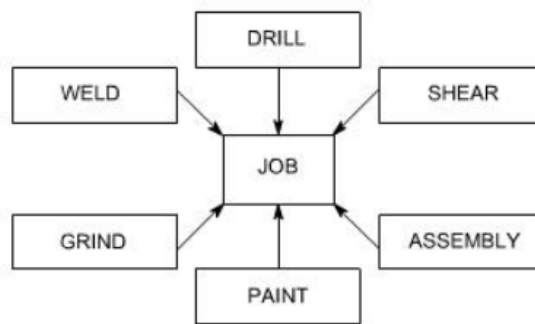

Figure 3: A Pictorial Representation of Fixed Location Type of Layout
• In this type of layout, the product is kept at a fixed position and all other material; components, tools, machines, workers, etc. are brought and arranged around it. Then assembly or fabrication is carried out. The layout of the fixed material location department involves the sequencing and placement of workstations around the material or product. It is used in aircraft assembly, shipbuilding, and most construction projects. A pictorial representation of a fixed location type of layout is given in Figure 3. The advantages and disadvantages are detailed in Table 3.